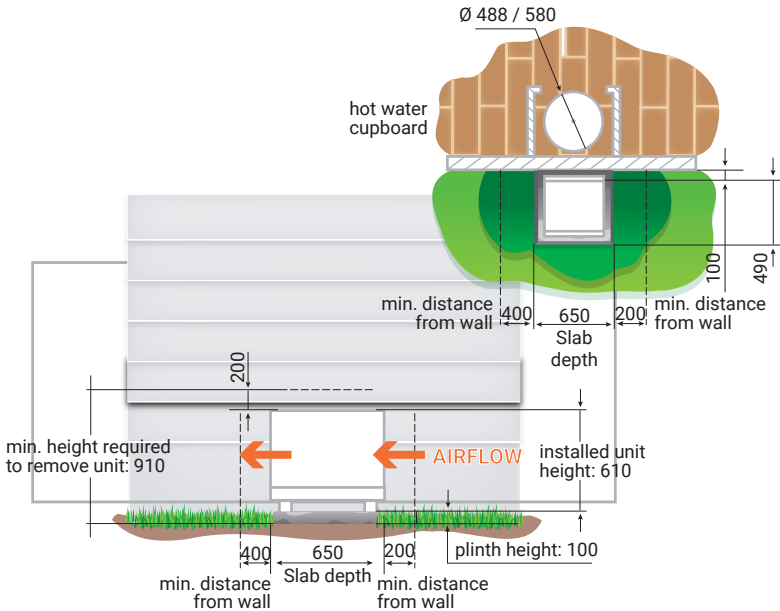

Figure 1: Typical Installation Detail—Indoor HWC/Outdoor Unit
- Figure 1: Typical Installation Detail—Indoor HWC/Outdoor Unit..... 14*